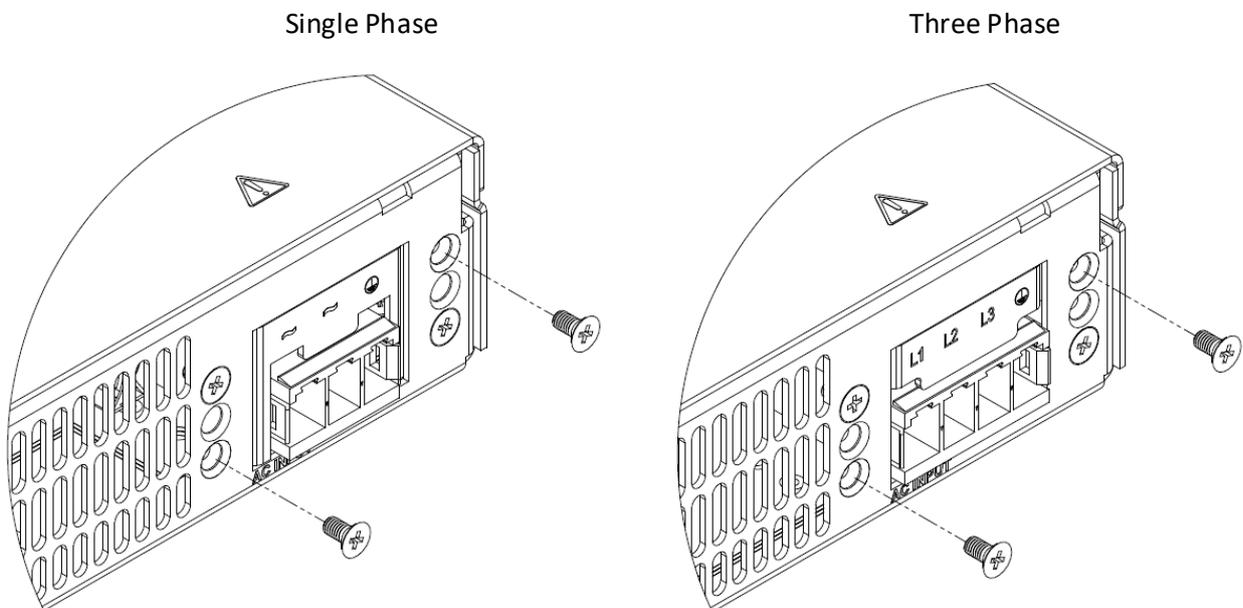

Figure 4-24: Unscrew the Rear Panel Screws
8. To fix the strain relief release assembly, unscrew two of the rear panel screws as shown in Figure 4-24. Do not reuse these screws.